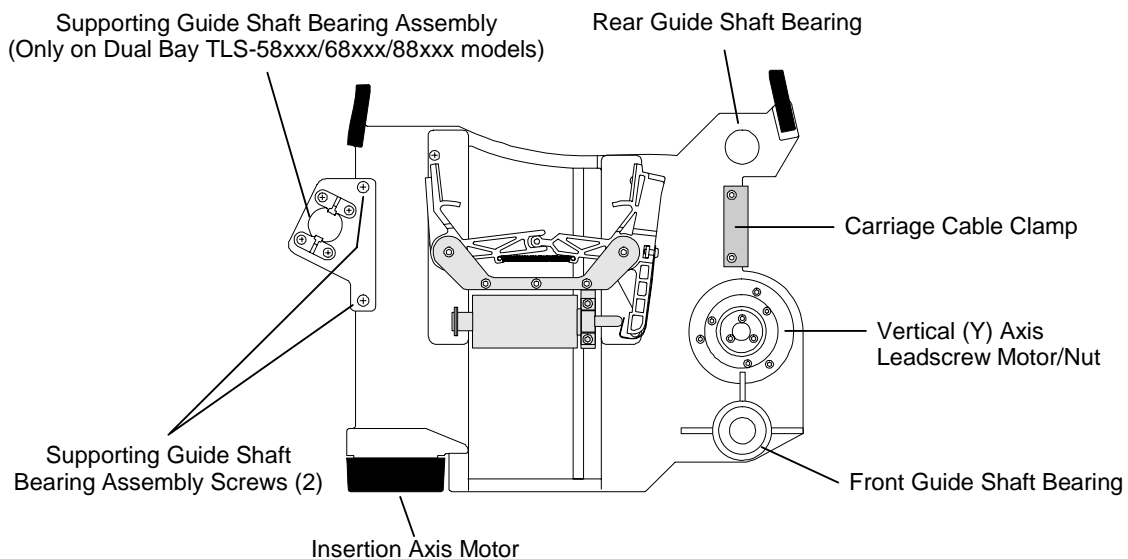
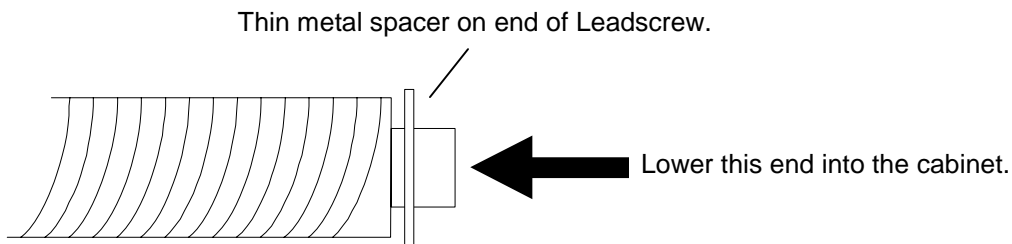

Figure 7-9 TLS Carriage Assembly P/N 501196-01-8
Figure 7-12 The Carriage Assembly Leadscrew
13. While holding the Carriage Assembly at the top of its vertical range of motion, rotate the Leadscrew counter-clockwise to disengage it from the Vertical (Y) Axis Leadscrew Motor/Nut (Figure 7-9). This may require holding the (Y) Axis nut to prevent it from rotating. Finally lift the Leadscrew out of the top plate and set it in a safe place. Locate the thin metal spacer and place it in a safe location.
16. Slowly lift the rear Guide Shaft up and out of the TLS. For dual bay models only, slowly lift the supporting Guide Shaft up and out of the TLS (Figure 7-9).
9. To install the Leadscrew/Spring Cup subassembly, lift the Carriage Assembly all the way up to the top of the Vertical (Y) Axis range of motion and hold it there.
10. Insert the bottom end of the Leadscrew (Figure 7-12) into its hole in the top plate, then lower the Leadscrew down into the threaded hole in the Vertical (Y) Axis Leadscrew Motor/Nut (Figure 7-9).
11. Make sure that the thin metal spacer is positioned on the end of the Leadscrew. See Figure 7-12.